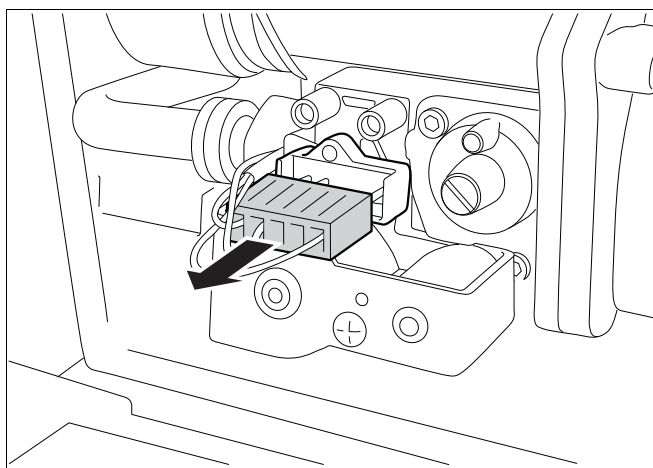

fig. 34 Removing the gas control valve plug
- Remove the plug of the gas control valve (see fig. 34).
- Reconnect the plug to the gas control valve (see fig. 34).